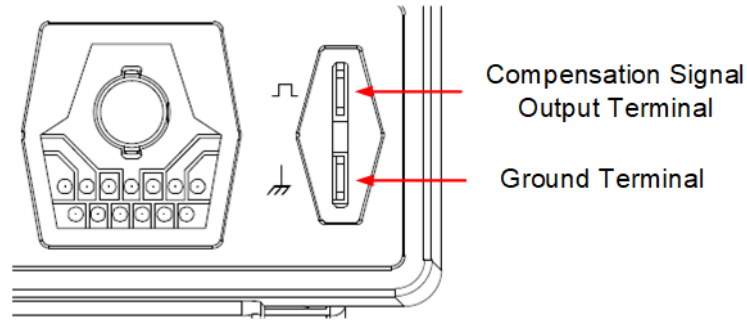

Figure 4.9 Using the Compensation Signal
2. Connect the ground alligator clip of the probe to the "Ground Terminal" as shown in Figure 4.9.
3. Use the probe to connect the input terminal of CH1 and the "Compensation Signal Output Terminal" of the probe, as shown in Figure 4.9.